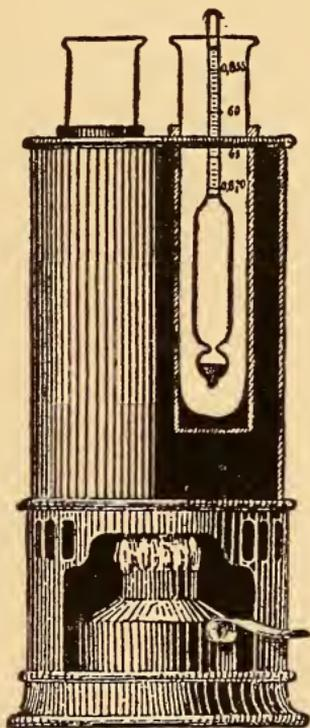

FIG. 20. KOENIG'S APPARATUS FOR ANALYZING BUTTER
*How to Test for Butter.*—Put a tablespoonful of the product in a test tube and heat it. If it is real butter it will boil gently and make quite a lot of foam, while renovated butter and oleomargarine will crackle loudly and foam but very little. A butter analyzing apparatus is shown in Fig. 20.2